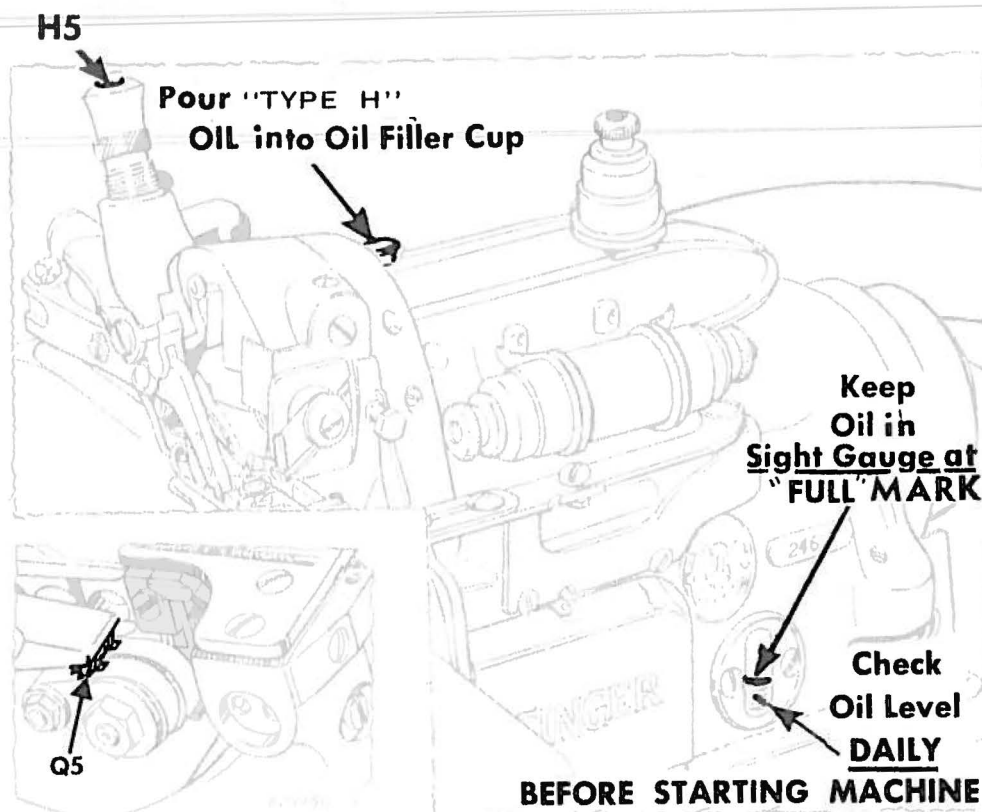
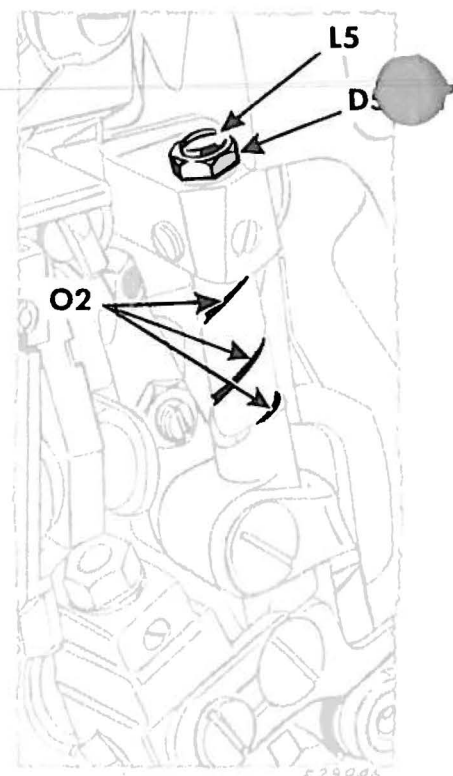

Fig. 7. Filling Oil Reservoir
Fig. 8. Oil Flow Adjustment
Apply this oil to oil filler cup on top of machine, pouring oil into reservoir until oil in the sight gauge is at "FULL" mark, as indicated in Fig. 7.
Check oil sight gauge daily before starting machine and oil machine, when necessary, as instructed in Fig. 7 above.
**WHEN A MACHINE HAS BEEN IDLE FOR A CONSIDERABLE TIME (OR AFTER A MAJOR INSTALLATION OF PARTS).** Clean the machine thoroughly. Then apply a few drops of oil to oil grooves of feed bar connections Q5 (see inset at bottom left of Fig. 7) and to looper carrier connection guide bar at O2, Fig. 8 behind upper knife carrier and chip guard. Apply a drop of oil to presser bar at H5, Fig. 7. Check oil level in reservoir, as instructed in Fig. 7.
Check the oil flow on right hand looper carrier connection guide bar at O2, Fig. 8.
To adjust amount of oil flow on guide bar at O2, loosen lock nut D5 and turn adjusting screw L5, Fig. 8 clockwise as far as possible. Oil flow is now shut off, completely.
When correct oil flow is obtained, lock the nut D5, Fig. 8. Replace the chip guard.